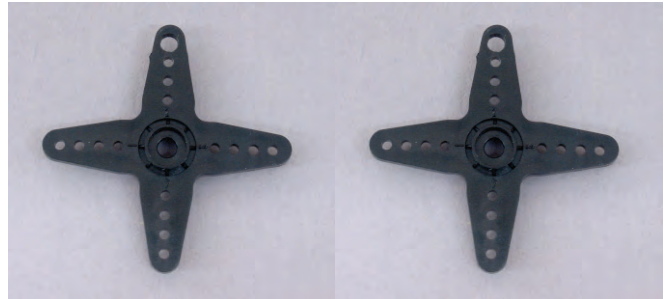

Fig 7
Use **Fig 6** as a guide. The servo horns (B) need to have one of the outside holes enlarged. If you do not have a 7/64" drill bit you can enlarge the hole with a hobby knife. When using a knife, carve from each side to keep the hole even. Make the hole a little smaller than the screw so that threads will be made when the screw goes in. Compare your work to **Fig 7** then proceed to **Step #4**.